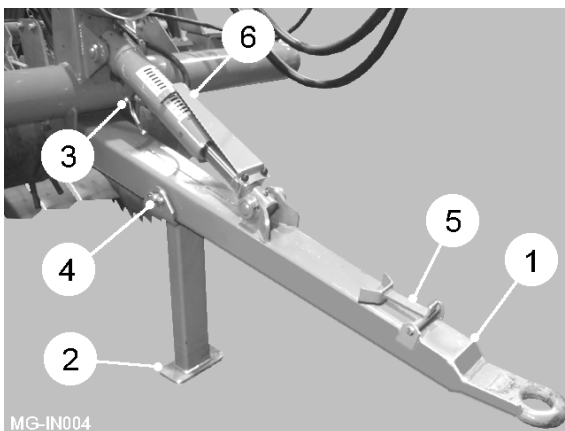
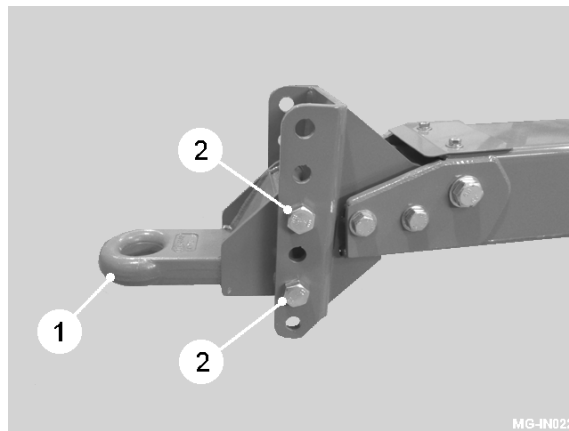
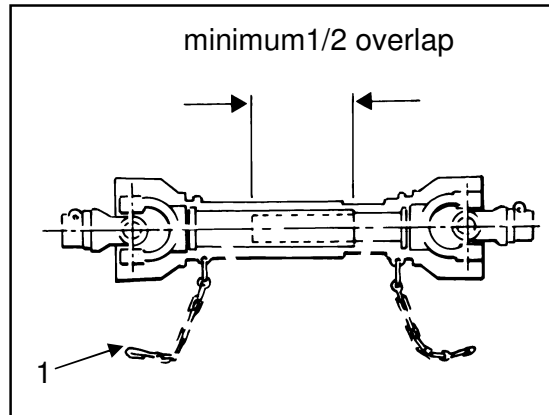
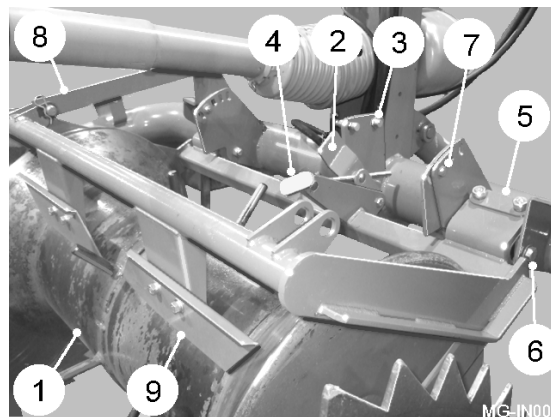

Fig 1
Fig 1a
Fig 2
Fig 8
The drawbar (item 1, fig 1) is designed to be attached to the tractor's swinging drawbar. The tractor drawbar should be fixed in its central position. Consult the tractor manufacturer's handbook for details. The machine drawbar eye should be checked regularly to ensure it is free moving and greased to prevent excessive wear.
The stand (item 2, fig 1) is provided so that the machine is held at a suitable height for safely coupling to the tractor. To adjust the height, connect the hydraulic hoses to the tractor and open the drawbar transport lock valve (item 3, fig 1). Operate the control box share depth control to achieve the correct drawbar height. On machines fitted with an adjustable drawbar eye (item 1, fig 1a), change the height by removing the two eye mounting bolts (item 2, fig 1a) and reposition them into a different set of holes. The eye can be turned upside down to achieve higher settings. Once securely attached to the tractor, raise the machine and remove the stand locking pin (item 4, fig 1). Store the stand on the LH side of the front chassis using the locking pin.
Fit the two halves of the PTO shaft onto their respective drive shafts on the machine and tractor. Check the shaft length by turning the tractor fully in both directions with the machine in its working position while attached to the tractor's pick-up hitch. Ensure the sliding tubes, when fully extended, have an overlap at least half the closed length (see figure 2). Ensure that the ends of the sliding tubes when at the shortest point are not in contact with other parts of the PTO shaft. If necessary, shorten both tubes and guards equally to achieve end clearance at the minimum length position.
Ensure that the safety chains (item 1, fig 2) used to prevent the guards from turning, are fixed to the tractor and implement in such a way that they will not be stretched when the drive shaft is at maximum articulation. When disconnected from the tractor, position the PTO shaft on the drawbar rest (item 5, fig 1).
Manual/automatic depth control ensures an even depth of soil in the finished bed. The depth roller (item 1, fig 8) runs on top of the preformed bed following the contours. On machines with manual depth control a turnbuckle is fitted between the chassis and depth roller frame. Adjusting the length of the turnbuckle effects the digging depth of the shares. On machines with automatic depth control, the depth roller is linked to a trigger plate (item 2, fig 8) which activates a pair of proximity sensors (item 3, fig 8) which then, via the valve block, actuate the share depth ram. Turning the adjuster handle (item 4, fig 8) changes the relationship between the depth roller and the trigger plate thus adjusting the working depth. An optional linear actuator can be fitted in place of the handle mechanism allowing adjustment from the in-cab control box. A depth indicator (item 6, fig 1) is fitted to the share depth ram giving the operator a visual indication of the action of the sensing system.
The depth roller frame pivots on two rubber torsion mountings (item 5, fig 8). By adjusting these mountings it is possible to adjust the amount of pressure the roller exerts on the soil. The adjustment is made with the machine raised out of work with the roller hanging freely. Loosen the torsion mounting bolts (item 6, fig 8) and remove the pressure setting bolts (item 7, fig 8) and raise the roller until the holes align with the chosen hole setting and refit the bolts.
A transport strap (item 8, fig 8) is fitted between the depth roller frame and the chassis. The strap must be removed before commencing work.
The scrapers (item 9, fig 8) are fitted to the to eliminate dirt build up on the roller. Set the scrapers as close as possible to the roller surface but ensure they do not restrict the roller from turning.